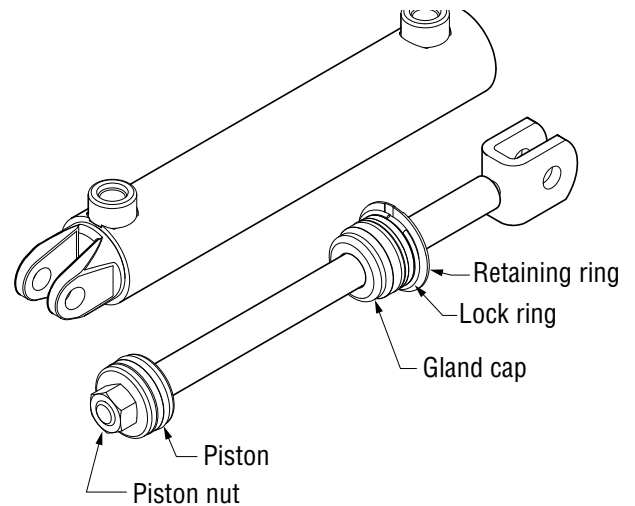

Figure 6-5, Rod Assembly
7. Remove the piston retaining nut and remove the piston. (Figure 6-5)